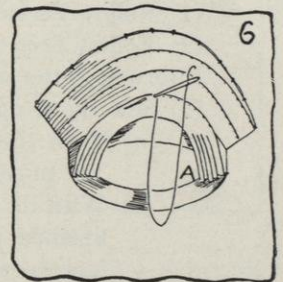

FIG. 6.
- c. Fill in short lengths. If in sewing the braid, you reach the headsize at one part of the brim before another, fill in the space with short lengths of braid, which you start above the top headsize of the model frame (see point *A* in Figure 6).